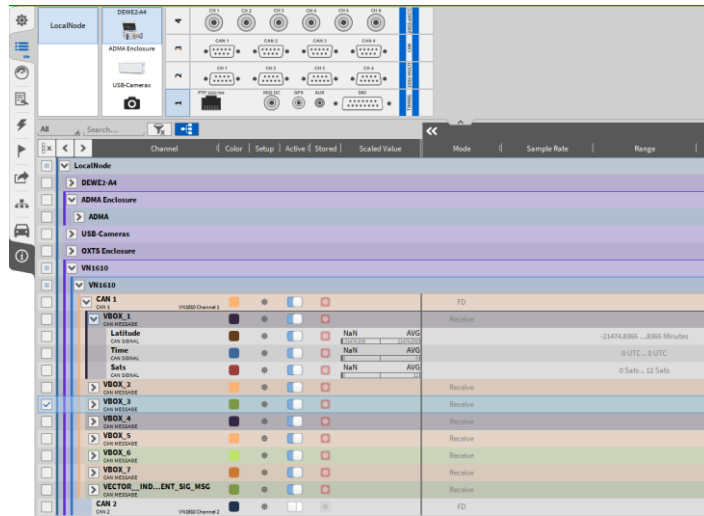

Figure 14-6: CAN-FD channel list in OXYGEN
- After loading the dbc-file, an arrow positioned left to the Channel name will appear. A click on the Arrow will expand the CAN-FD channel list and show the individual CAN-FD messages included their CAN channels (see Figure 14-6).